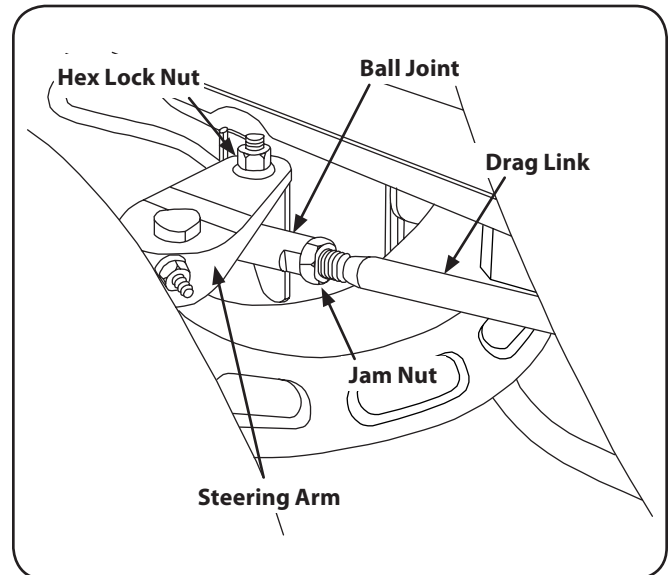

Figure 6-9
- Loosen the jam nuts from the ball joints. See Fig. 6-9.
- Disconnect the front ball joints from the steering arms by removing the hex lock nuts. Refer to Fig. 6-9. Manually move each wheel to achieve the required toe-in and equal D measurements.